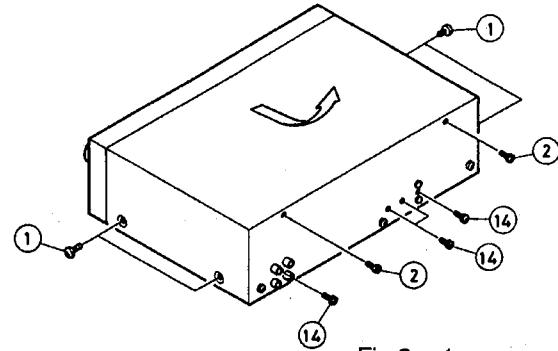

Fig 2 – 1
1. Remove four screws ① retaining the top cover from both side.
2. Remove two screws ② retaining the top cover from the back side.
3. To remove the top cover ,slide in direction of arrow and lift away(refer to Fig 2 – 1)